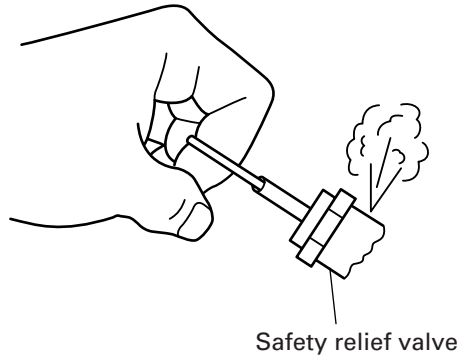

Fig. 4
- (4) Make sure the safety relief valve is working correctly. (Fig. 4)